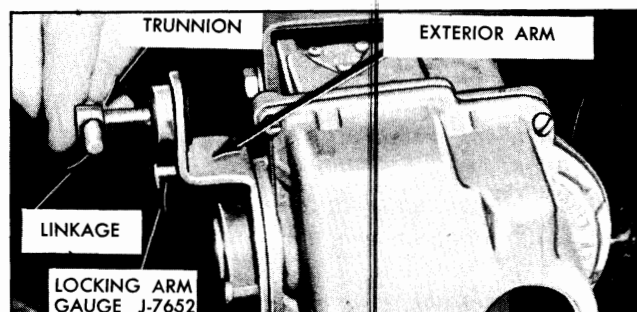

Fig. 12-46 Accelerator Linkage Adjustment
4. Insert locking arm gauge J-7652 over stop stud and hold exterior arm securely against gauge (Fig. 12-46).